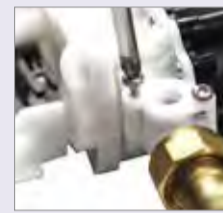

Fig.2
- Unscrew the two screws on the filter protective cover and remove the filter assembly. (Fig.2).